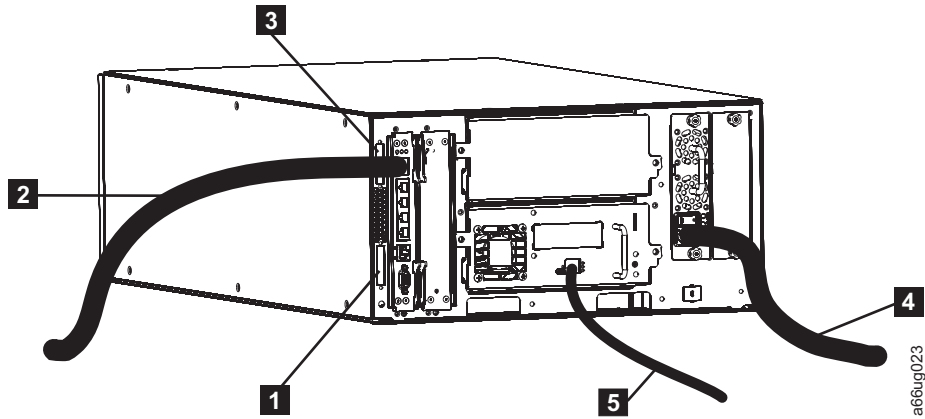

Figure 4-34. Cabling of a 5U library with Fibre Channel drives
1. Install the upper module communication terminator. **3** in Figure 4-34.
2. Install the lower module communication. **1** in Figure 4-34.
3. Connect one end of the customer-supplied ethernet cable (**2** in Figure 4-34) in the Library Control Blade (LCB) ethernet port. Then, connect the other end of the cable to your network.
4. Connect one end of the drive-to-host cable (**5** in Figure 4-34) to the library. Then, connect the other end of the cable to your network. Repeat this procedure for every drive in your library.
5. Connect one end of the power cord (**4** in Figure 4-34) in the receptacle in a power supply in your library. Then, connect the other end of the cord to your power source. Repeat this procedure for every power supply in your library.